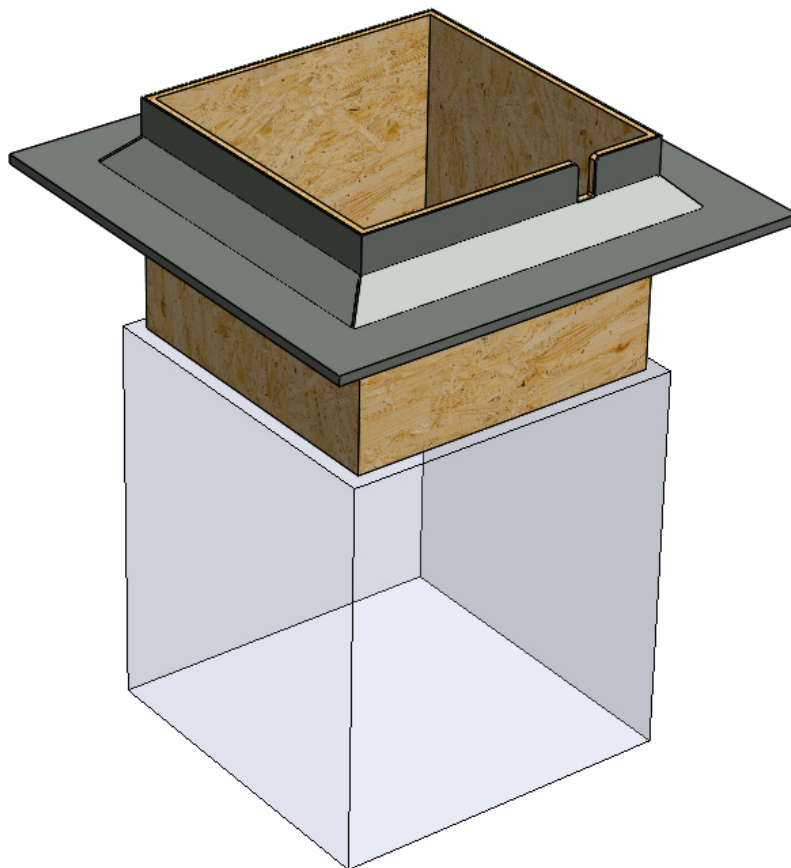

Figure 9 – Upstand dimension details.
1. 18mm Marine plywood upstand to be constructed and fixed by others around the perimeter, with a minimum height of 160mm from the top of the upstand to the roof. This will create an internal opening dimension of 792mm x 792mm – *see figure 9.*